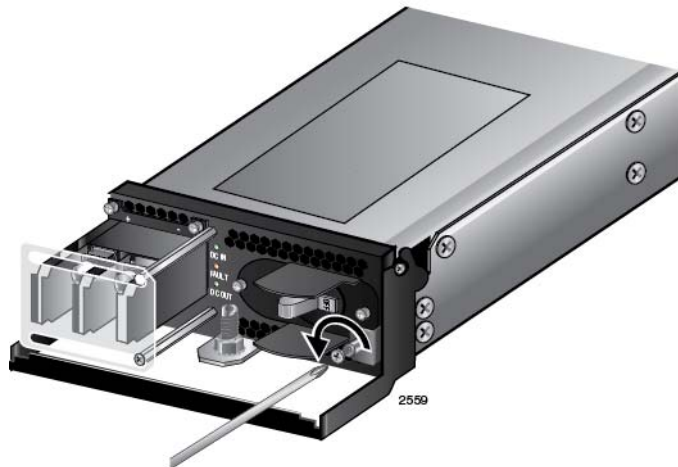

Figure 59. Loosening the Handle locking Screw on the AT-SBxPWRSYS1 DC System Power Supply
5. With a #2 Phillips-head screwdriver, loosen the handle locking screw on the power supply, as shown in Figure 59.